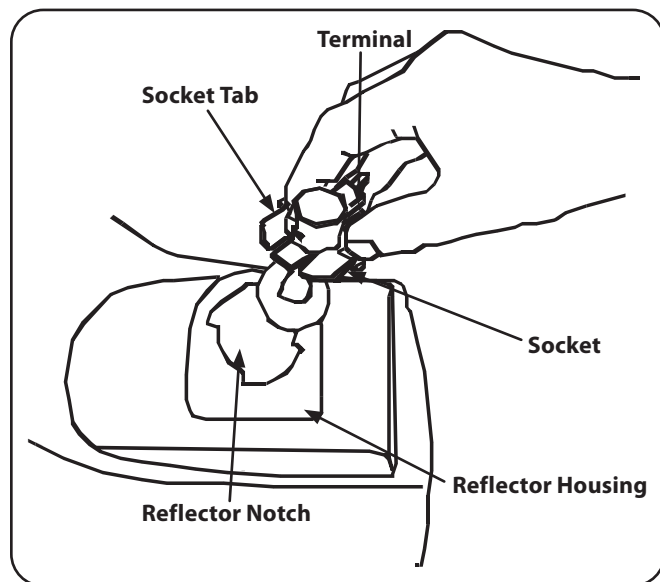

Figure 7-3
3. Rotate the socket assembly approximately $\frac{1}{4}$ turn to align the socket tab with the reflector housing notch; then withdraw the bulb and socket assembly from the reflector housing. See Figure 7-3.
5. Align a locking post of the bulb base with the notch in the socket, then push the bulb inward and turn clockwise to lock. See Figure 7-3.